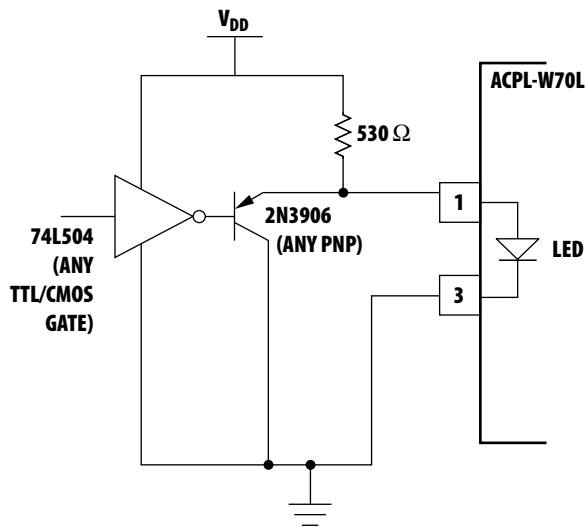

Figure 15. TTL interface circuit for the ACPI-W70L families.
1. Use of drive circuits where current is shunted from the LED in the LED “off” state (as shown in Figures 15 and 16). This is beneficial for good CM_H .
Using any one of the drive circuits in Figures 15-17 with $I_F = 6 mA$ will result in a typical CMR of $10 kV/\mu s$ for ACPL-W70L AND ACPL-K73L, as long as the PC board layout practices are followed. Figure 15 shows a circuit which can be used with any totem-pole-output TTL/LSTTL/HCMOS logic gate. The buffer PNP transistor allows the circuit to be used with logic devices which have low current-sinking capability. It also helps maintain the driving-gate power-supply current at a constant level to minimize ground shifting for other devices connected to the input-supply ground.